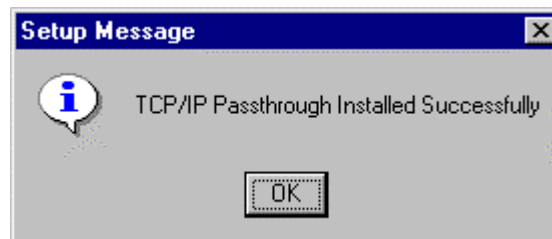

Figure 9-6. Setup Message - Install Successful
6. The system will proceed to install the software. During the install a progress bar will be displayed. At the end of the install a Setup Message box will display indicating successful installation (Figure 9-6). Click **OK** to continue.